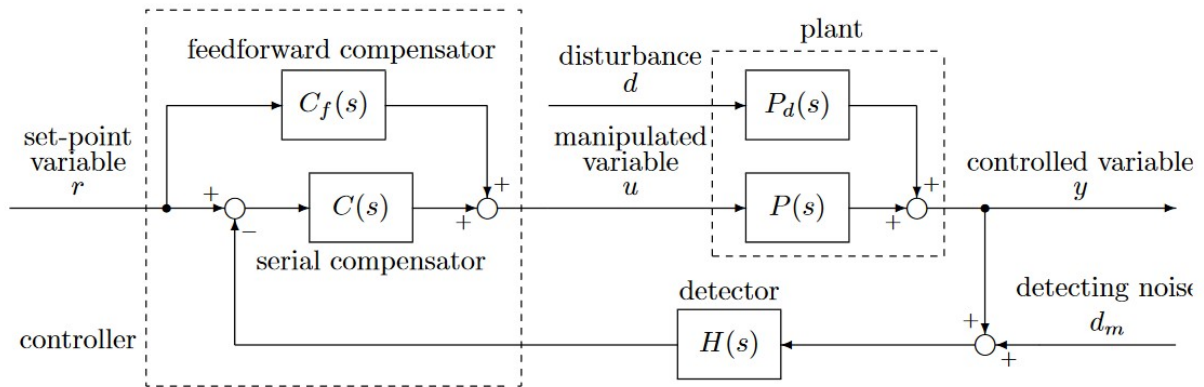
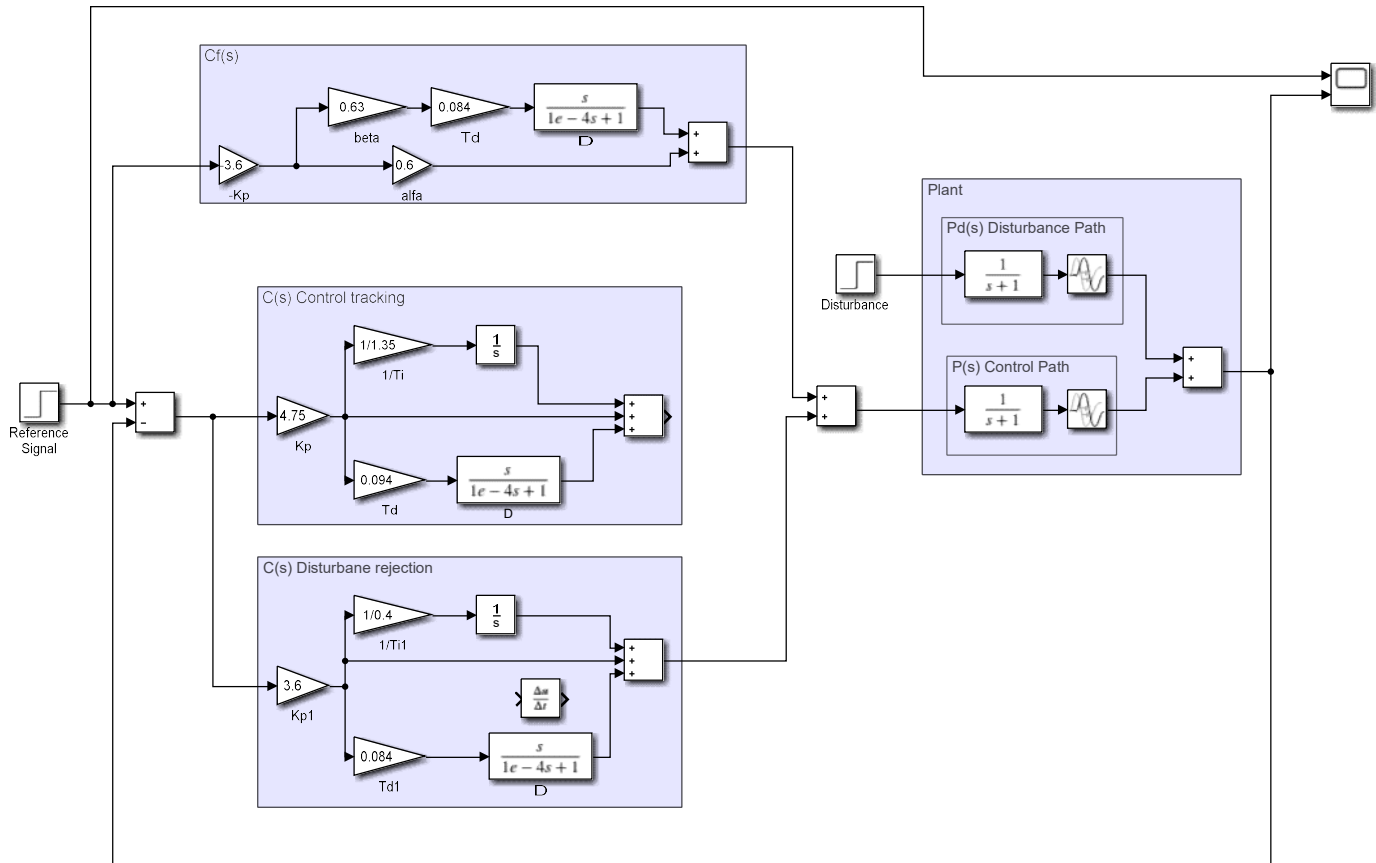

Fig. 1. 2DOF PID controller [1]
Fig. 2. Simulink model of 2DOF PID controller
The 2DOF PID controller combine feedforward path to classic PID control loop. The structure is presented in Fig. 1.
1. According to Fig. 1, Fig. 2 and following equation build diagram in Simulink with plant defined as  $P(s) = \frac{1}{1+s} e^{-0.2s}$ .